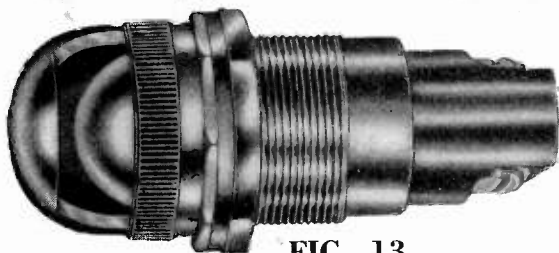

FIG. 13
- 47901 Light Shield cap (Fig. 13) Binding Screw terminals (Fig. 8)